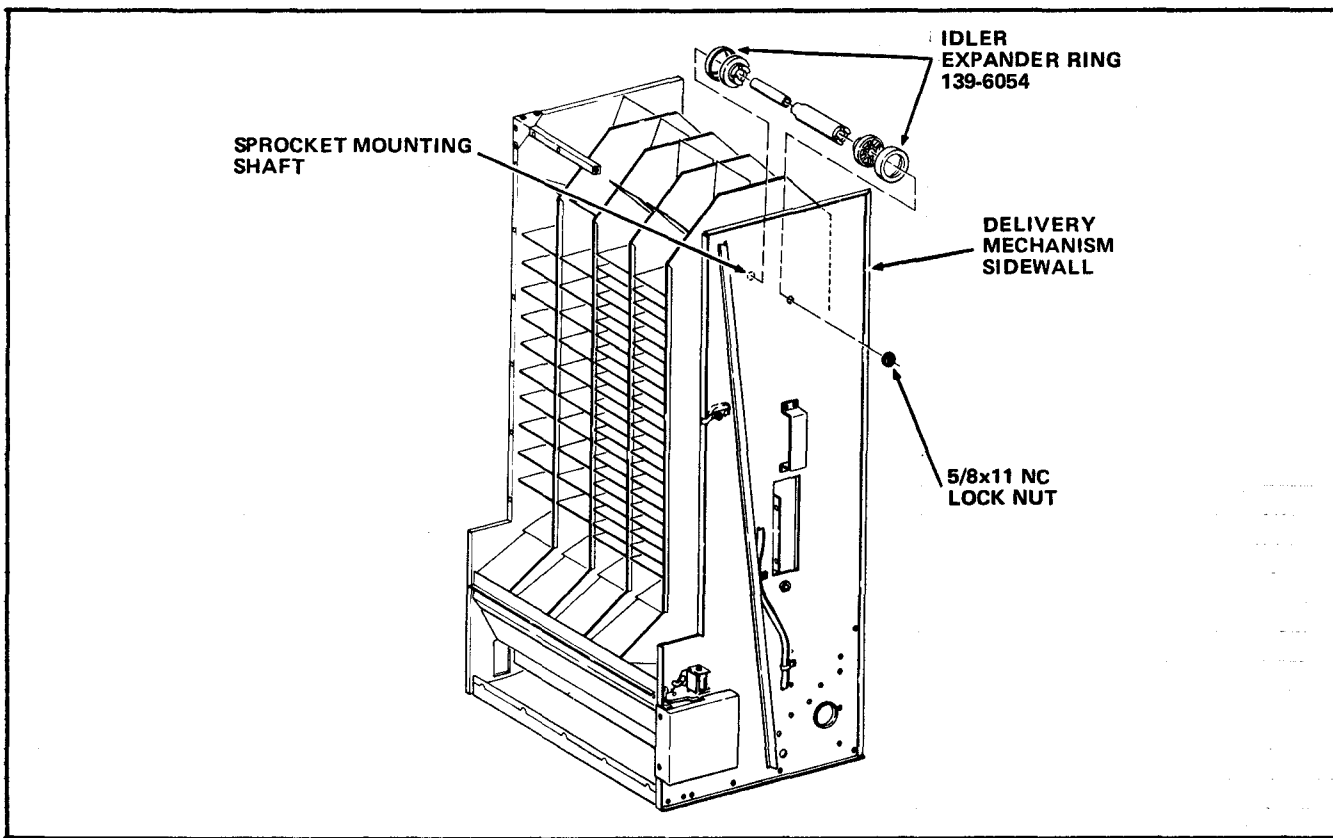

FIGURE 4
10. Remove the 5/8-11 NC Lock Nut securing the Sprocket Mounting Shaft to the Delivery Mechanism Sidewall closest to the column which contained the defective Tray Chain Assembly. See Figure 4.
11. Slide the Spocket Mounting Shaft back until the end of the Shaft is flush with Column Divider Assembly immediately past the column which contained the defective Tray Chain Assembly. See Figure 4.
1. Fit the two Idler Expander Rings, Part Number 139-6054, over the two Idler Spindles which were removed from the column which contained the defective Tray Chain Assembly. See Figure 4.